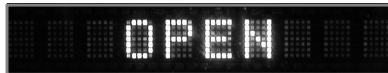

Figure 1
1. Press the OPEN/CLOSE Push-button. The disc tray will slide out allowing a disc to be loaded. Refer to figure 1.